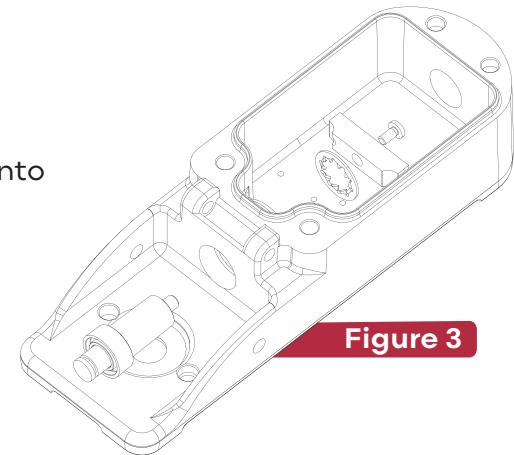

Figure 3
- Place the pedal pressure plastics on the outer side and insert the mechanical transmission elements into the housing in the order shown (Figure 3).